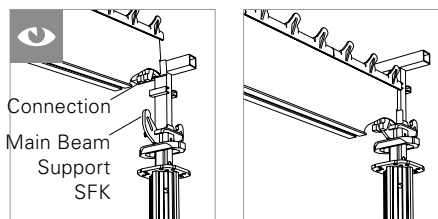

Fig. A9.09
- Is the Main Beam SLT mounted centrally in the beam support of the heads? Does the main beam connection enclose the main beam support of the head? (Fig. A9.09)